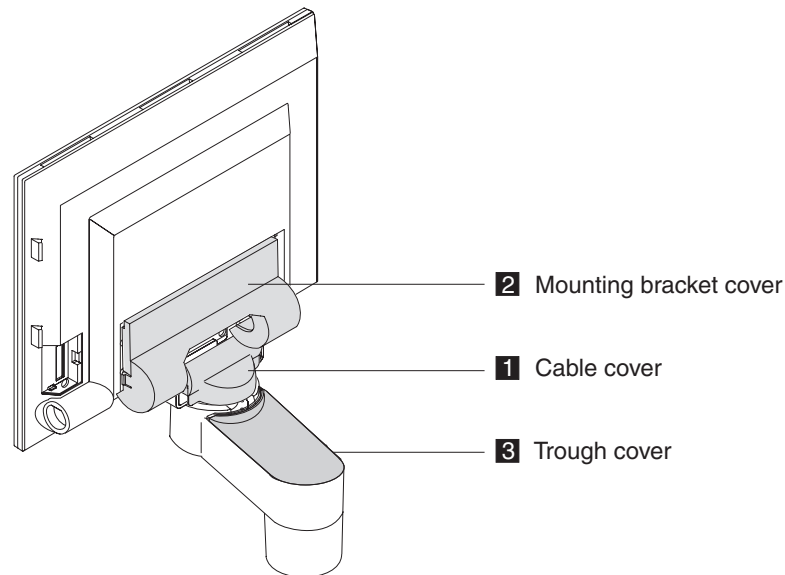

Figure 30. Integrated pedestal covers
- a. Attach the cable cover ( **1** in Figure 30) to the mounting bracket, snapping the tabs on the sides of the cover into the small holes on the sides of the mounting bracket.
- b. Attach the mounting bracket cover ( **2** in Figure 30) to the back of the display. Slide the tabs on the cover into the appropriate slots in the back of the display and snap into place.
- c. Position the trough cover ( **3** in Figure 30) over the trough of the integrated pedestal. Press the trough cover until it snaps into place.